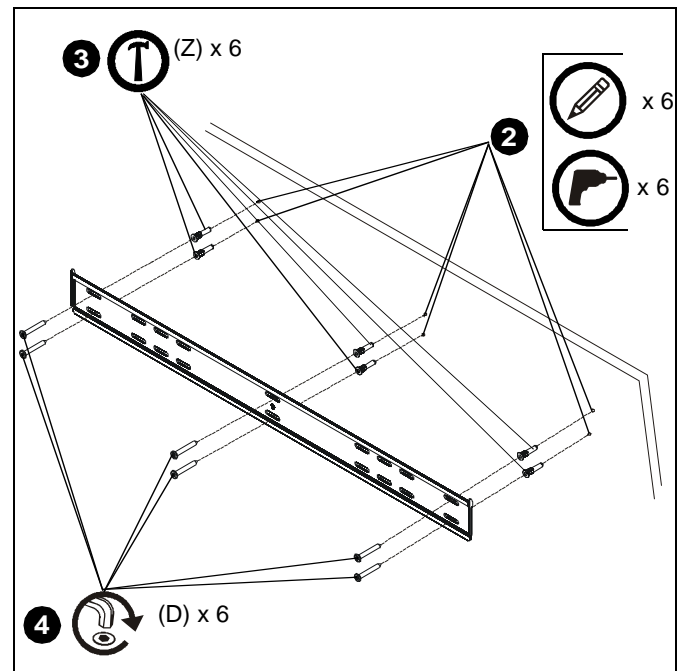

Figure 2
2. Using wall plate as a template, mark and then drill six 5/16" diameter pilot holes through mounting surface. Use level to make sure wall plate is perfectly horizontal. Holes must be drilled at least 2-1/4" deep. (See Figure 2)
3. Install six anchors (Z) into pilot holes drilled in Step 2. Use a hammer to lightly tap anchors into holes. (See Figure 2)
4. Install six connector screws (D) through wall plate holes and into anchors. (See Figure 2)